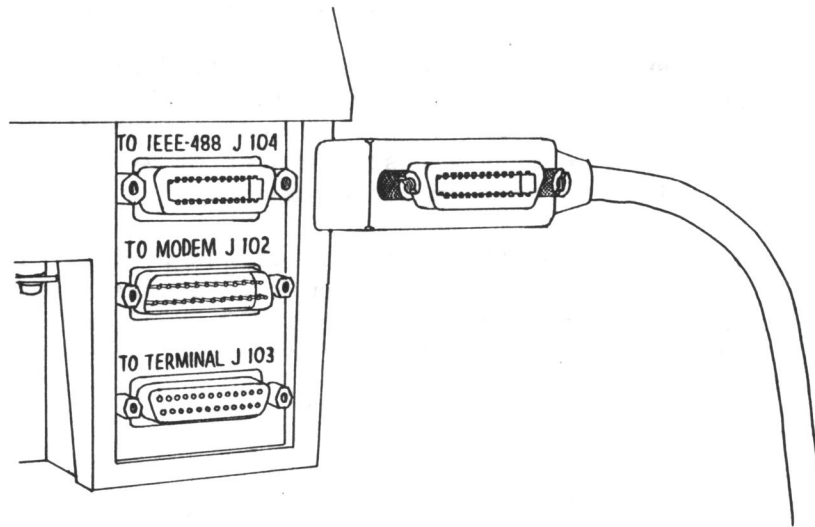

Figure 1-6
- * IEEE-488 - Connect the plotter to the IEEE-488 bus via the port labeled "TO IEEE-488 J104" (see Figures 1-6 and 1-7).